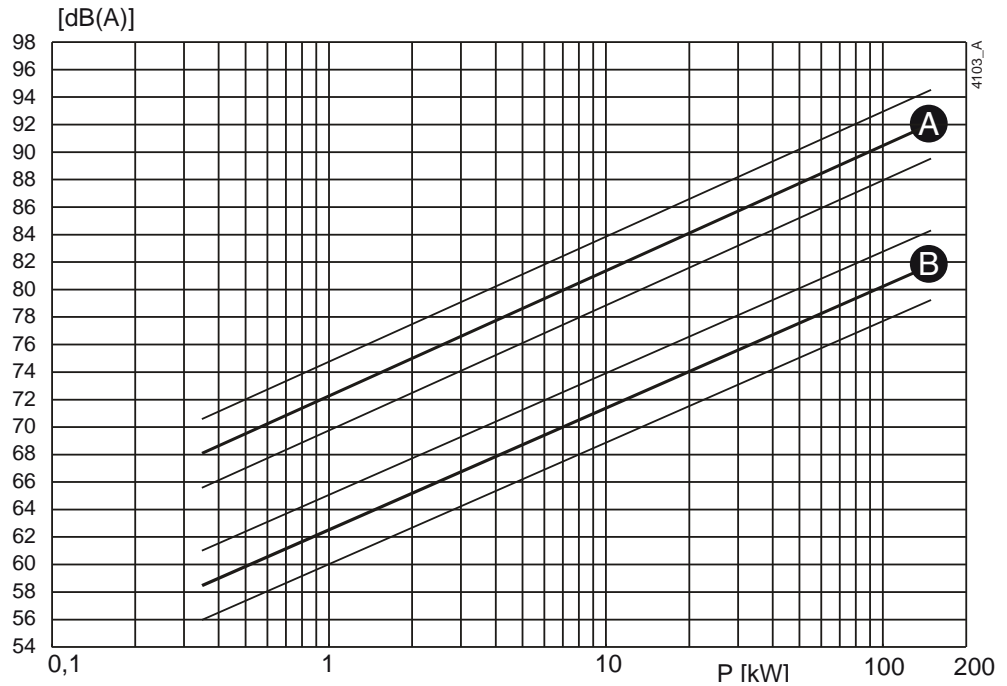
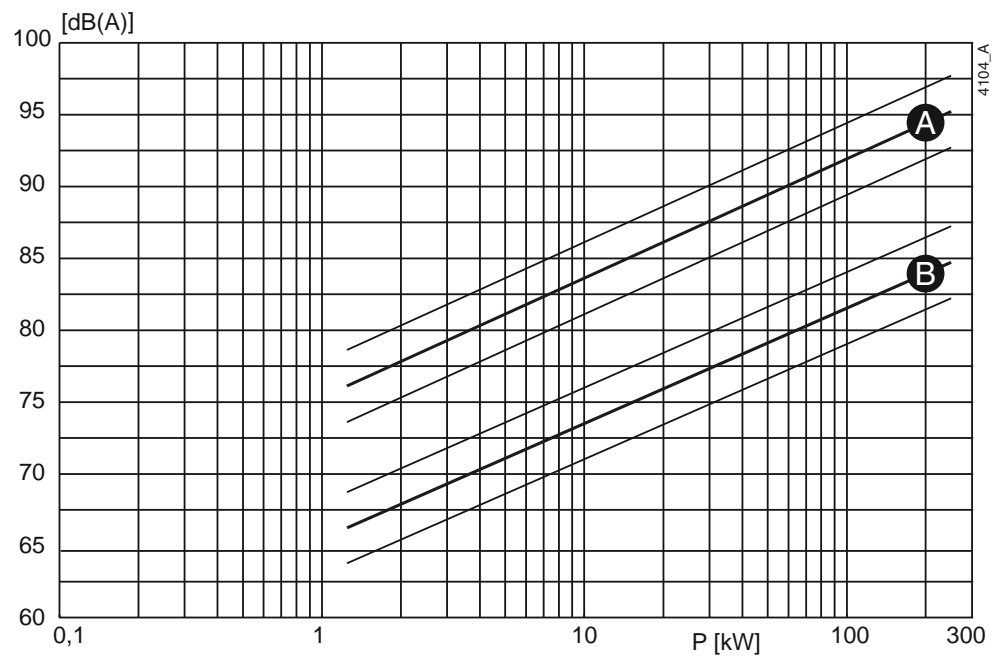

Figure 40: Noise level as function of pump power [kW] at 1450 min-1
Figure 41: Noise level as function of pump power [kW] at 2900 min-1
- 1 Determine the noise level ( $L_1$ ) of the pump, see figure 40 or figure 41.